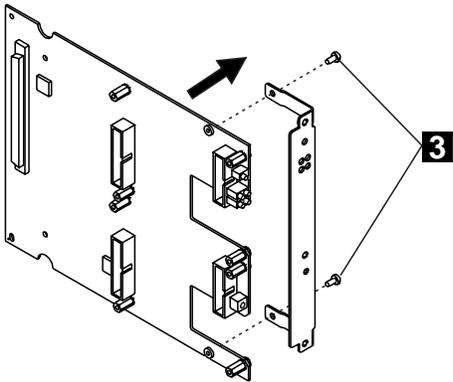

Figure 12. Removing the Dummy Faceplate Bracket
- **4** Remove the dummy faceplate bracket from the motherboard (**3** in Figure 12), retaining the screws for the new bracket. Keep the dummy bracket in a safe place for future reuse.